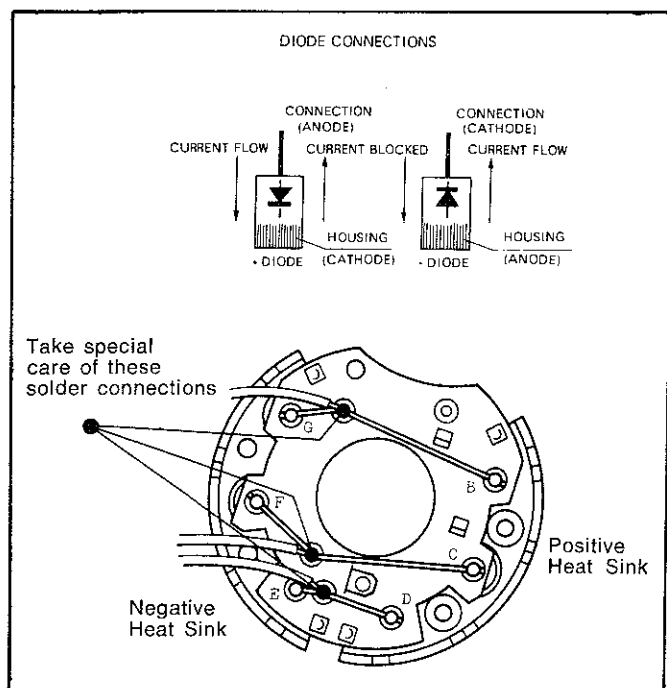

Fig. 7—Diode plate assembly
CAUTION: TO avoid the possibility of diode failure from excessive heat, a pair of pliers should be used to hold the diode side of this connection during soldering operations. This will dissipate any excess heat — see Fig. 7.
(1) Test diodes with a series test lamp of up to 24 Volts DC. Apply the test probes between the connecting points (B, C, D and E, F, G) (Refer Fig. 7) and the heat sink. The positive probe of the test light should connect to the anode and the negative probe to the cathode.
NOTE: The housing will form the cathode on the positive heat sink and will form the anode on the negative heat sink (refer Fig. 7).